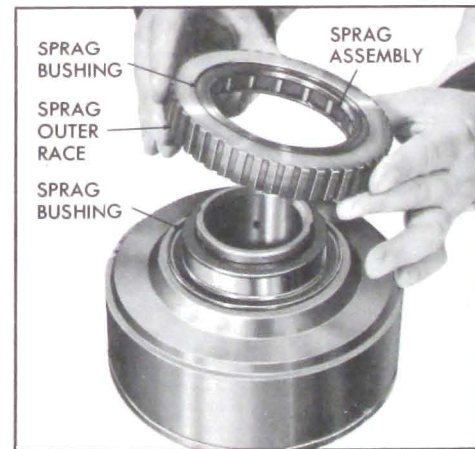

Figure 5-635
2. Remove sprag outer race, bushings and sprag assembly. See Figure 5-635.